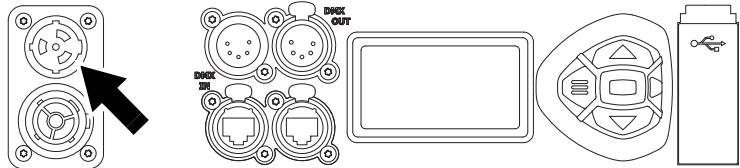

Figure 7: Mains input socket
2. See Figure 7. line up the keys in the power input cable's TRUE1 TOP connector with the keyways in the MAINS IN socket (arrowed). Insert the connector into the socket and twist clockwise to engage.